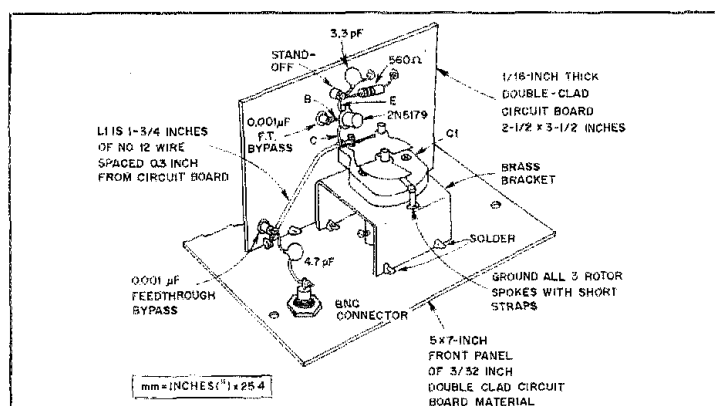

Fig. 10 — The 432-MHz oscillator is tuned by a two-plate APC-type capacitor, C1, which has a maximum capacity of 4 pF. Tuning range is roughly 390 to 450 MHz.
Fig. 9 — This battery-powered combination 432- and 1296-MHz signal source permits antenna measurements at sites remote from ac power. Construction details of the 432-MHz oscillator, Q1, and the 1296-MHz oscillator, Q2, are given in Figs. 10 and 11, respectively. Adjust the modulation frequency to 1000 Hz by means of R1.
- L1 — 1.75-inch length of no. 12 solid copper wire, spaced 0.3 inch from circuit board. See Fig. 10.
The signal source is built on a 5 × 7-inch panel of 3/32-inch double-clad circuit board. A standard 5 × 7 × 3-inch aluminum chassis serves as the cabinet. Complete shielding is mandatory, of course; stray radiation from the source would be detrimental in antenna work. Most of the construction details should be evident from the photographs and Figs. 10 and 11. Each oscillator is built on a separate 2-1/2 by 3-1/2 inch rectangle of 1/16-inch double-clad circuit-board material. The modulator is built on a piece of perf board of the same dimensions.